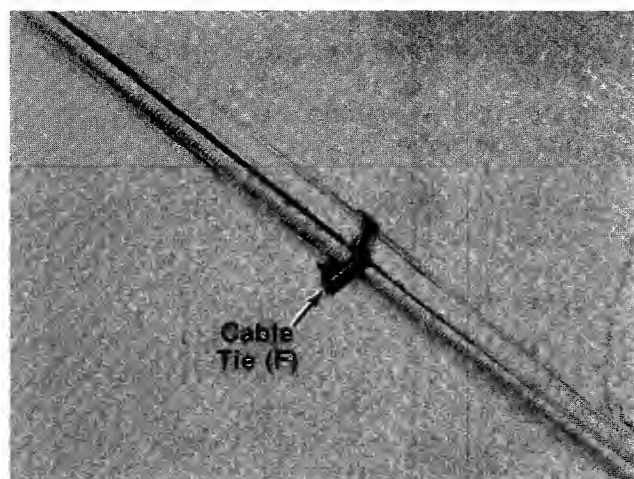

FIGURE 6.
7. Secure throttle control cable and clutch cable to upper and lower handles with cable ties (F) provided. See figure 6.